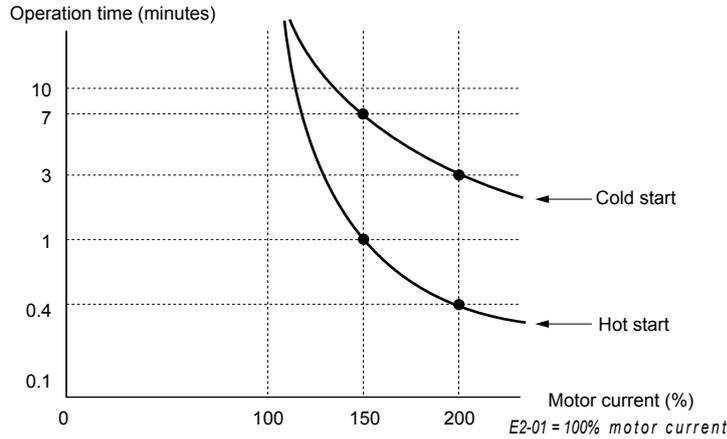

Figure 5.73 Motor Protection Operation Time
- **Figure 5.73** shows an example of the electrothermal protection operation time using a general-purpose motor operating at 60 Hz with L1-02 set to one minute.